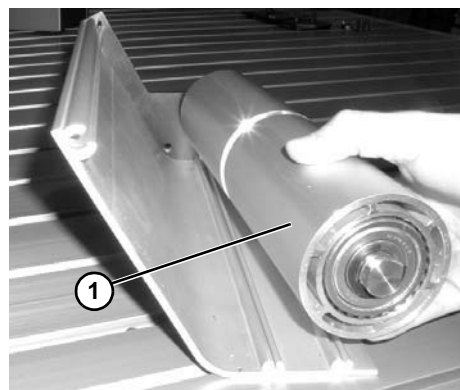

Figure 112
5. Slide the idler pulley assembly (**Figure 112, item 1**) out of the idler guide side plate on the opposite side.